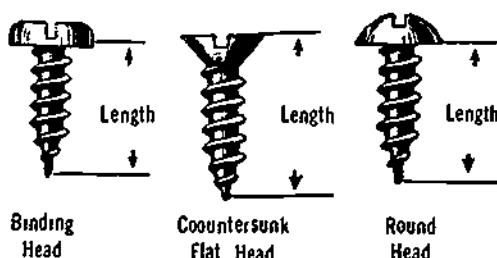

Figure 17-26. Self-Tapping Metal Screws
- c) There are many types of metal screws in varying sizes and lengths. Shown in Figure 17-26 are three different types of heads found on self-tapping metal screws.